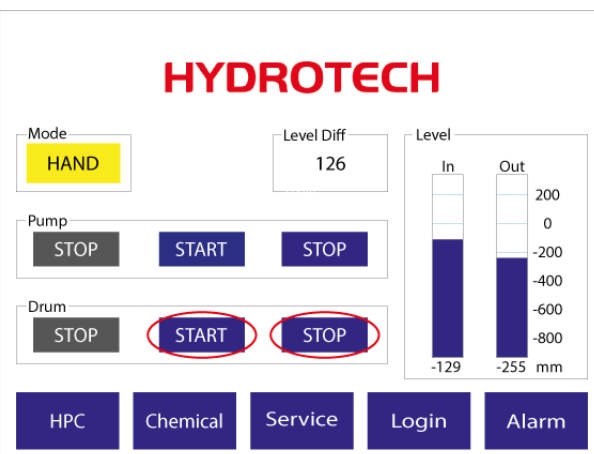

Figure 7.14 Main menu in operator manual.
2. Select “Start” for the drum on the operator panel, see Figure 7.14.